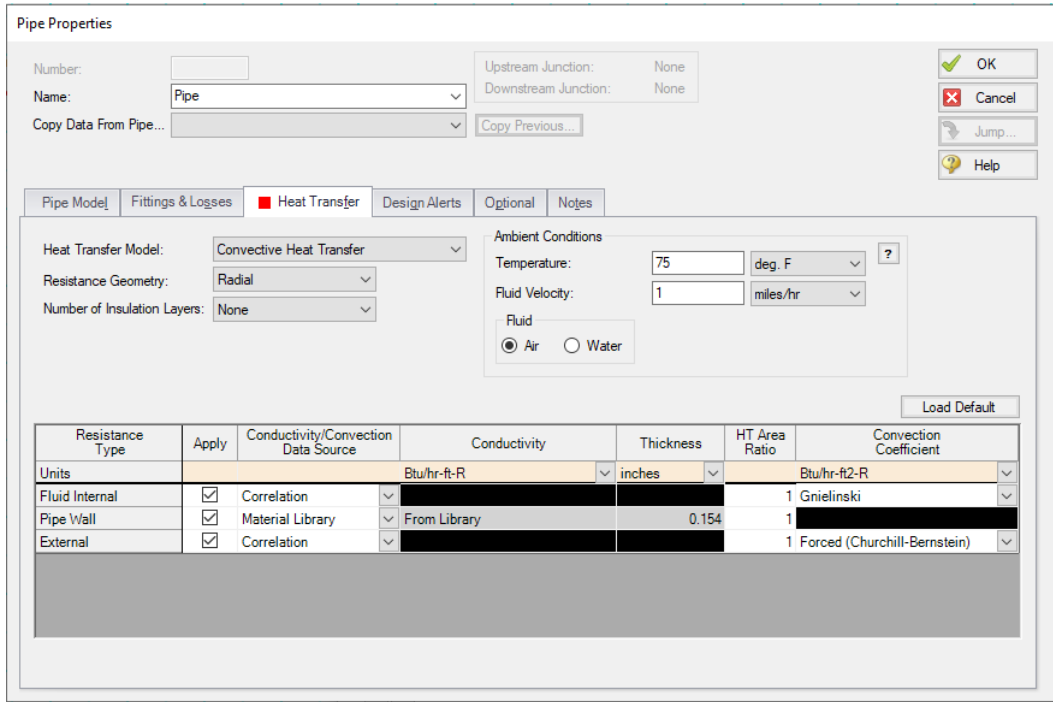

Figure 3.3 The Heat Transfer tab is where you specify heat transfer properties for the pipe
Click on the Heat Transfer tab. Select "Convective Heat Transfer" for the Heat Transfer Model, and enter 75 deg. F for the Ambient Temperature and 1 miles/hr for the Fluid Velocity with Air as the fluid. Also, ensure that the Gnielinski correlation is selected under the Convection Coefficient column in the Fluid Internal row, and that Forced (Churchill-Bernstein) is chosen in the External row. The Pipe Properties window should appear as shown in Figure 3.3. Select OK.
2. For this case, you should use the highest ambient temperature of 75 deg. F and minimum velocity of 1.0 miles/hr which will yield the lowest heat loss. Since you used this same data when you added the pipe heat transfer data in the Base Scenario using the Global Pipe Edit feature (Step 3), the pipes in this scenario have already inherited this heat transfer data, so no change in the heat transfer data is necessary. To verify this, click on Pipe P2 to open the Pipe Properties window. Select the Heat Transfer tab. The data should appear the same as shown in Figure 3.3.